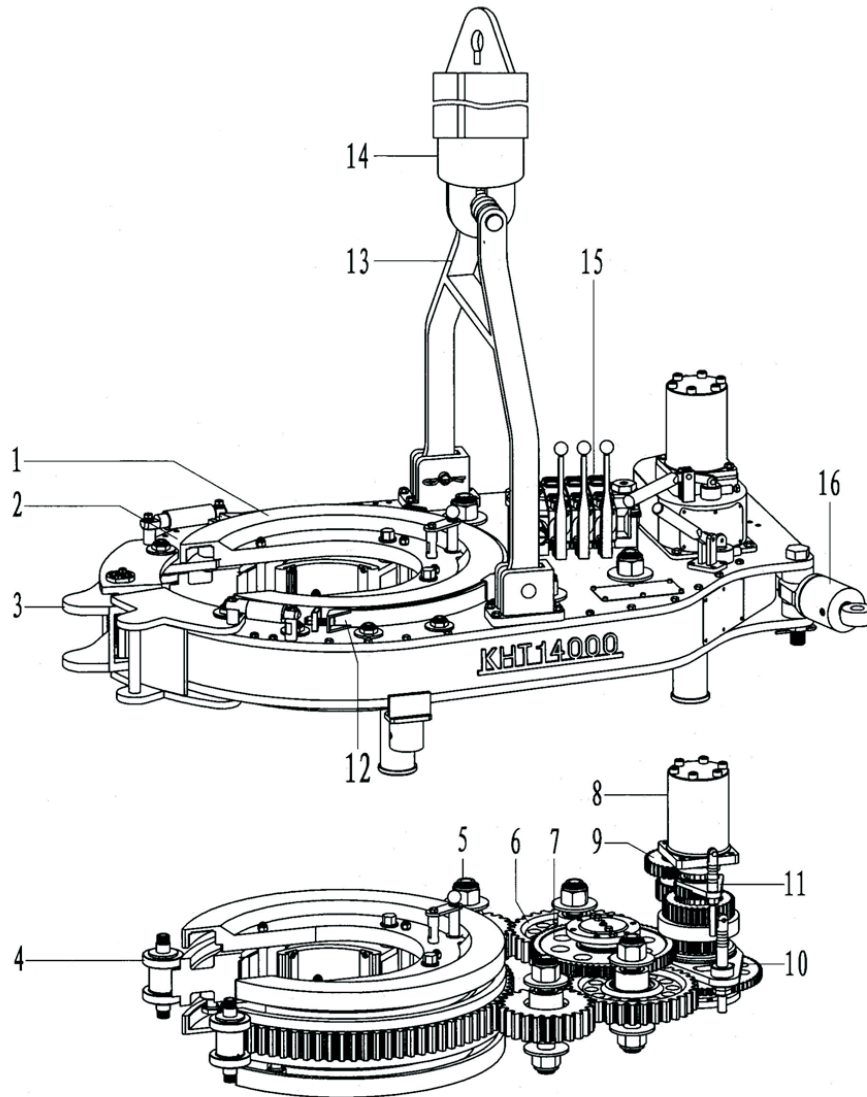

Fig.2
7.2 Assembly of master tong (Fig 2, Table 2)